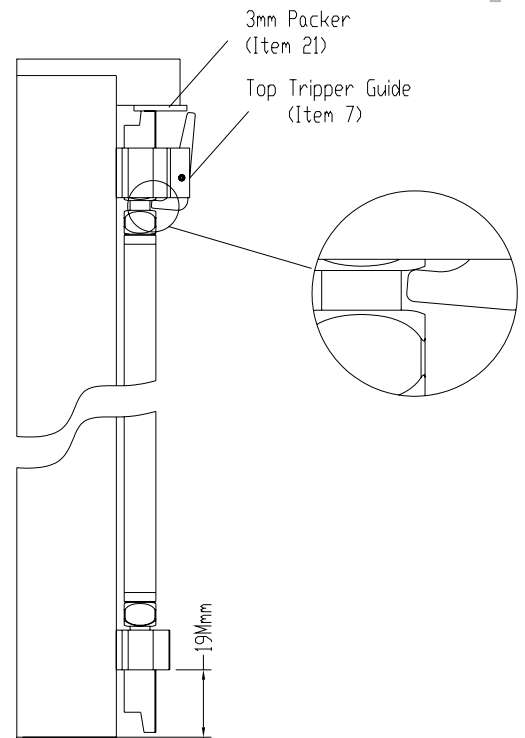

Fig 4.7
**See Figs 4.7 & 4.8**
Slide the remaining plain guide down into position maintaining a gap of 19mm between the underside of the guide and threshold. Mark through and secure into position **See Fig 4.7**